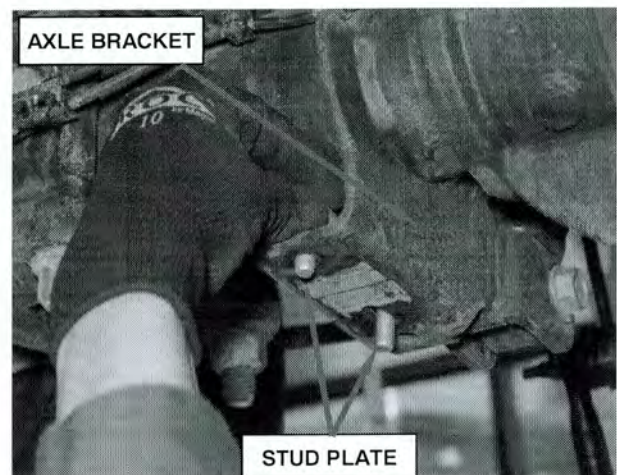

Figure 4 – Stud Plate
5. Install the stud plates to the axle bracket, both right and left sides (Figure 4).